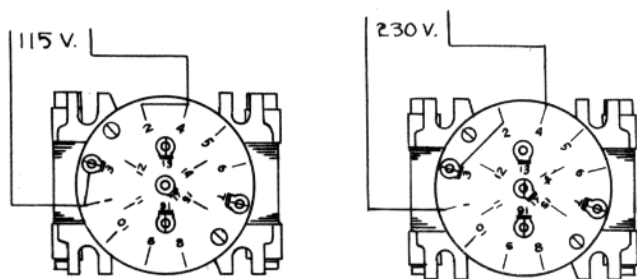

Figure 2. Power transformer connections for 115 volts and 230 volts.
1.31 The instrument can be operated from any 115/230 volt, 50-60 cycle line. Connections on the power transformer enable the input to be changed from 115 to 230 volts, if required. See Figure 2, below, for connection data. The power supply name-plate is reversible, and should be turned over if the transformer connections are changed.